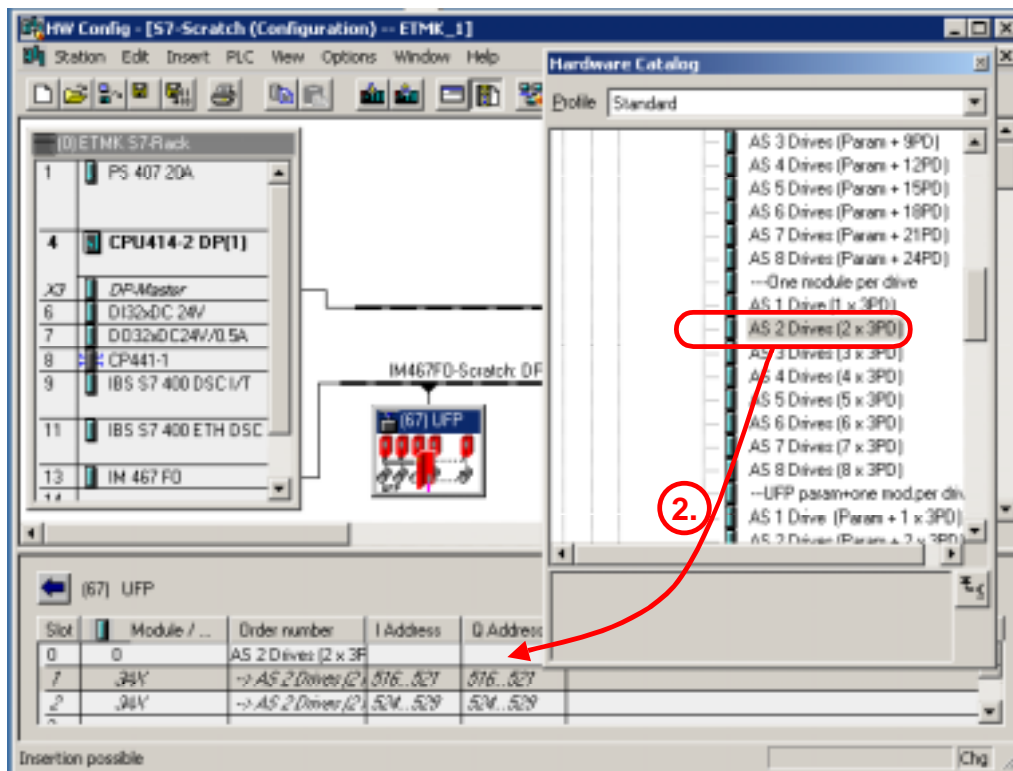

Bild 3: Transparent set-up of UFP in HWKonfig
- Choose the DP configuration „**AS 2 Drives (2 x 3PD)**“ and insert this module to slot 0 (see figure 3, no. 2).